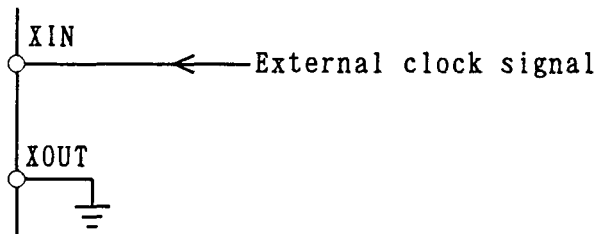

Fig.4
- For external clock operation, if the high(H) level of the input clock signal amplitude equals to or is greater than 1.5V, and the low(L) level equals to or is smaller than 0.5V, then connection should be □ ade as shown in Fig.4.